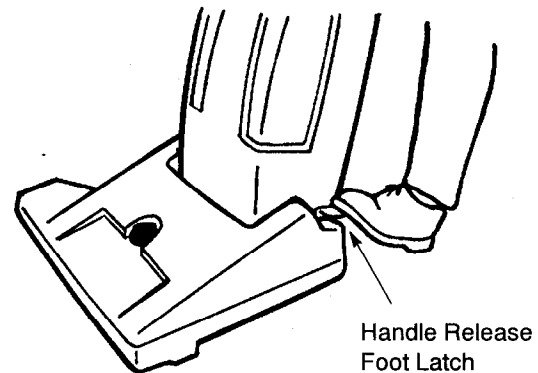

FIG. 1
3. Lower handle to operating position by depressing handle release foot latch (*Figure 1*).